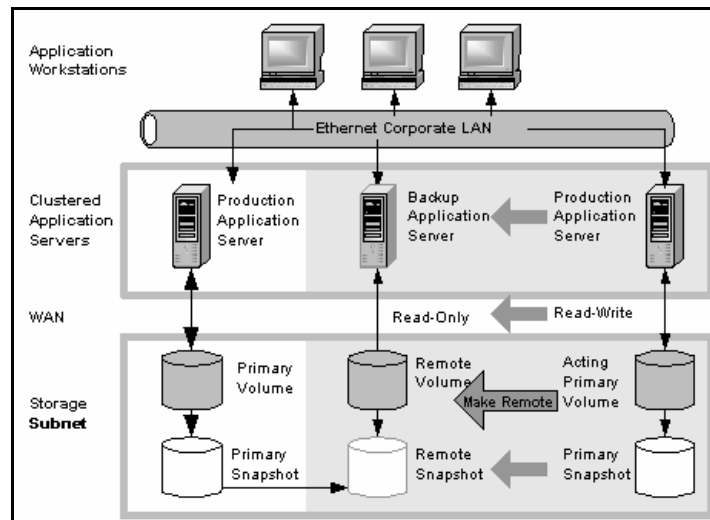

Figure 241. High Availability Configuration During Failback
- Resume operations using the original production server, and return the backup volumes to their original remote status, as illustrated in Figure 241. This will require migration back onto the production volumes of data that was written to the backup volumes since the failure.